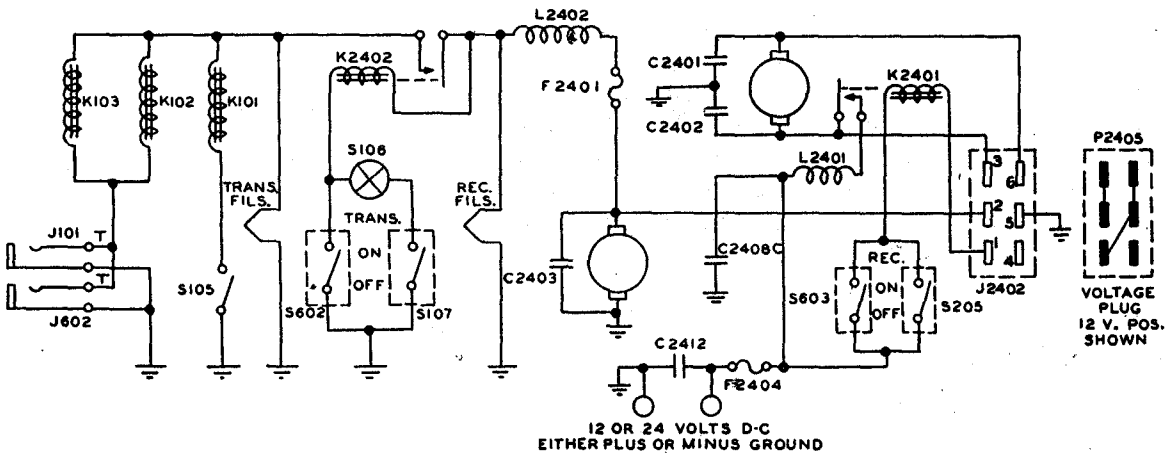

Fig. 14. TCS Primary Power Circuits using the Single Dynamotor Power Unit (Dwg. 500 9967 001)
2.4.1.2. The Single Machine Dynamotor Power Unit employs but one dynamotor which operates from either a 12 V or a 24 V d-c source. Two of the dynamotor's four windings are high voltage windings and are connected in series for the 440 volt transmitter power supply. Refer to Fig. 14. Just one of the high voltage windings is used for the 225 volt receiver power supply. The third winding is connected in series with the remaining winding when a 24 volt input is used. It also, while connected thus, furnishes filament power for the transmitter and receiver. This third winding is connected in parallel with the remaining winding when a 12 volt input is used. A special plug located inside the unit is employed to convert from a 12 v d-c input to a 24 v d-c input. Any polarity input can be used simply by plugging in POLARITY PLUG P2404, which is a special polarity changing device located inside the unit, to correspond to the polarity employed. The input to the dynamotor is controlled by operation of the receiver POWER switch S205 or the remote RECEIVER switch S603 through relay K2401. A separate relay K2402 applies filament and relay power to the transmitter when the POWER Switch, S107, on the transmitter or the TRANSMITTER switch, S602, on the remote box is operated. A spark suppressing circuit composed of C2413 and R2401 is shunted across the contacts of relay K2401. Noise suppressing circuits are employed on both the input and the output windings of the dynamotor. Smoothing of the d-c output is accomplished by ripple filters in the high voltage output of the dynamotor. The components are protected from direct short circuits by fuse F2404 in the input circuit, fuses F2403 and F2402 in the high voltage circuits, and fuse F2401 in the filament circuits. For 12 v d-c operation, fuse F2404 should be a 40 amp. fuse. If 24 v d-c operation is desired, F2404 should be a 20 amp. fuse. Refer to Fig. 81 for details concerning the connections of the VOLTAGE PLUG and the POLARITY PLUG.